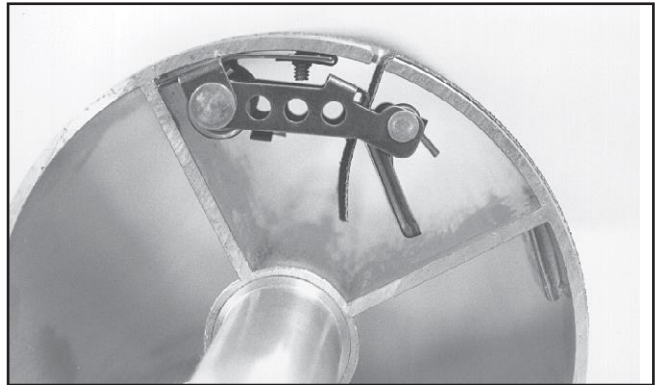

Fig. 16I Reset take-up as needed as strip stretches.
6. The abrasive strip may stretch enough in use to allow the take-up lever to reach its lowest position so it no longer is able to maintain tension on the strip (Fig. 16I). If this occurs, it will be necessary to reset the take-up lever by raising it, pushing the strip end into the slot, and then releasing the clip lever.